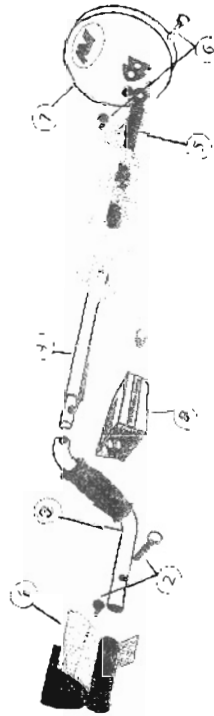

Figure 1 - Assembly of the XT 17000
Figure 1 shows normal searching without AGT. Ground noises reduce the effective searching depth when you move from where you last ground balanced. The shaded area shows ground which is not properly searched.
- A. Remove the black nylon bolt and nut (2) from the armrest (1).
- B. Slide the armrest (1) (with the support fins pointing to the ground) onto the end of the grey upper shaft (3) furthest from the foam handgrip (as is shown in figure 1). Line up the holes at a comfortable position for the length of your arm.
- C. Push the nylon bolt (2) through the holes and tighten the wing nut by hand.
- A. Slide the intermediate shaft (4) into the upper shaft (3) taking note of the position of the black "Y" clip (as shown in figure 1). Ensure that they click together correctly and will not easily come apart.
- A. Remove the tape on the lower fibreglass tube (5) which is holding the black teardrop washers in place. Make sure the washers do not fall out after removing the tape.
- B. Remove the white nylon nut and bolt (6) from the coil (7).
- C. Push the lower fibreglass tube (5), with the teardrop washers in place, into the bracket on the coil so that the holes line up. Make sure that the black nylon spring clip, near the top of the fibreglass tube, is pointing toward the rear of the coil.
- D. Push the white nylon nut and bolt (6) (as shown in figure 1) through the holes in the bracket on the coil from the cable entry side, then place the spacer and wing nut on the other end of the bolt and tighten by hand.
- A. Slide the lower shaft assembly into the intermediate shaft (4). Note that the black plastic locking nut may need to be loosened to get the lower shaft assembly in.